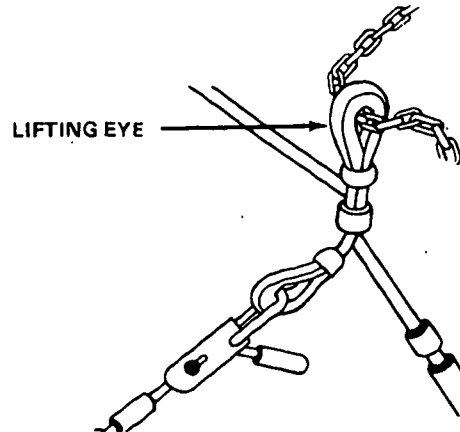

Figure 8-10. Connecting Sling Leg Lifting Eye
Step 5 - Loop the chain end of a sling leg, such as the 10,000-pound capacity sling set, through each pallet sling lifting eye as shown in Figure 8-10.